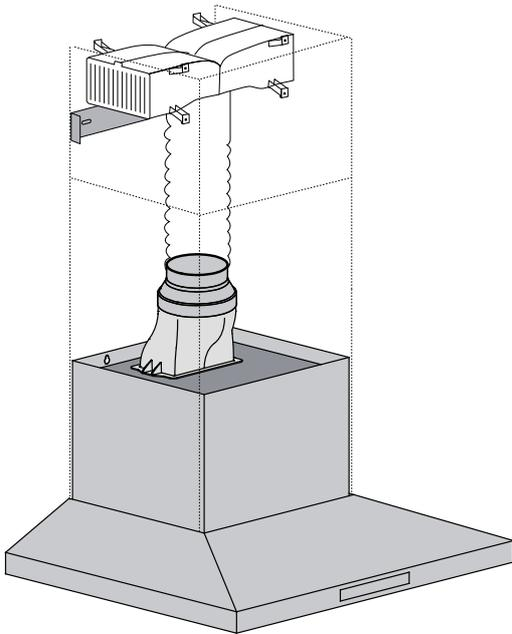

Fig. 10
- 6a. Recirculating mode** (Fig. 10). Using the centre line, secure the recirculating T-piece to the wall with suitable screws/fixings (optional kit AR610RK). Install flue pipe between T-piece and reducer.